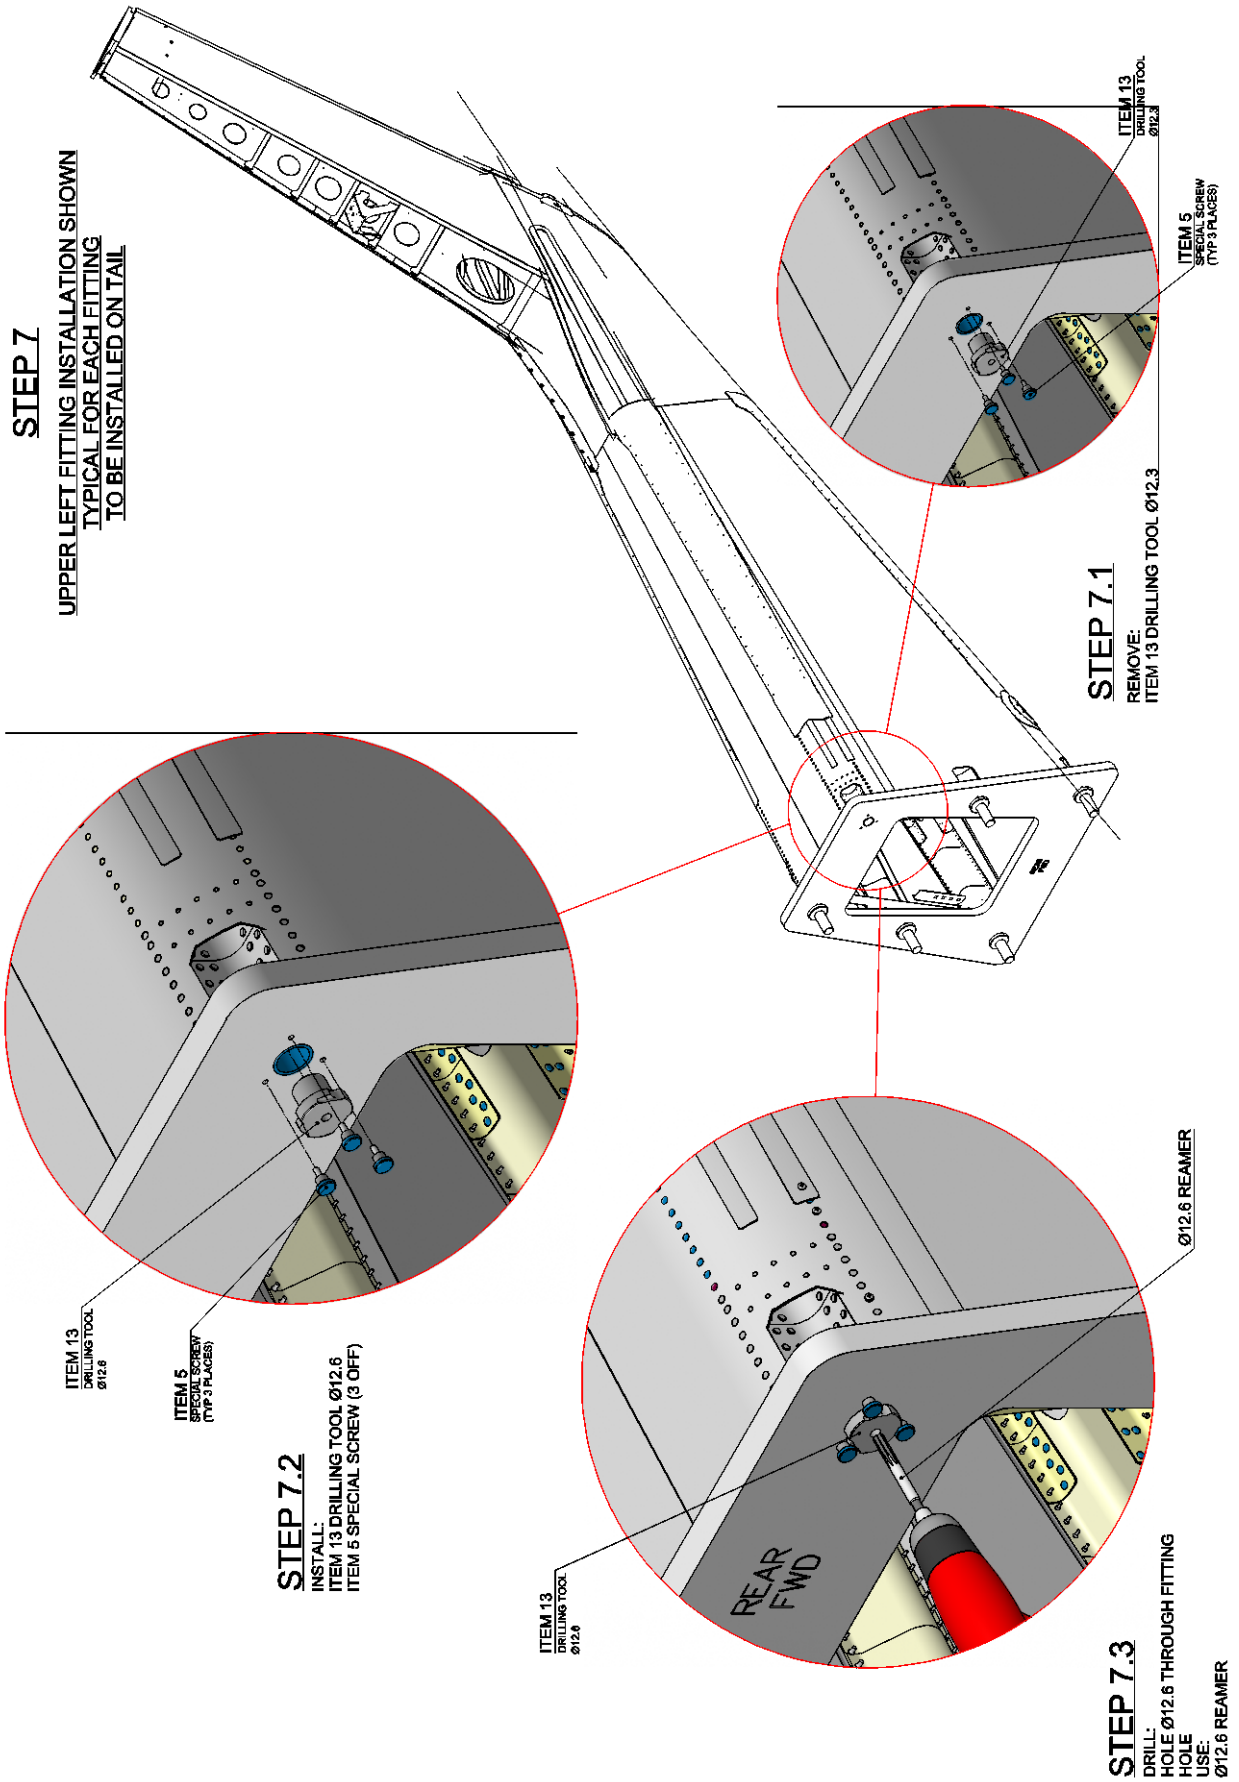

Figure A8
12. With reference to Figure A8, install the drilling tool $\varnothing 12.6$ (ITEM 13) by means of n°3 special screws (ITEM 5) and ream the fitting hole to $\varnothing 12.6$ by means of reamer $\varnothing 12.6$.